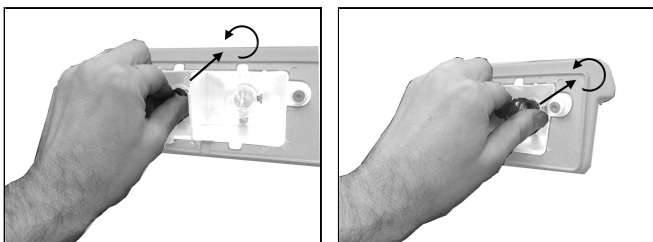

Figure 2
- Remove the bulb by turning it 1/4 of a turn in the anti-clockwise direction (figure 2)